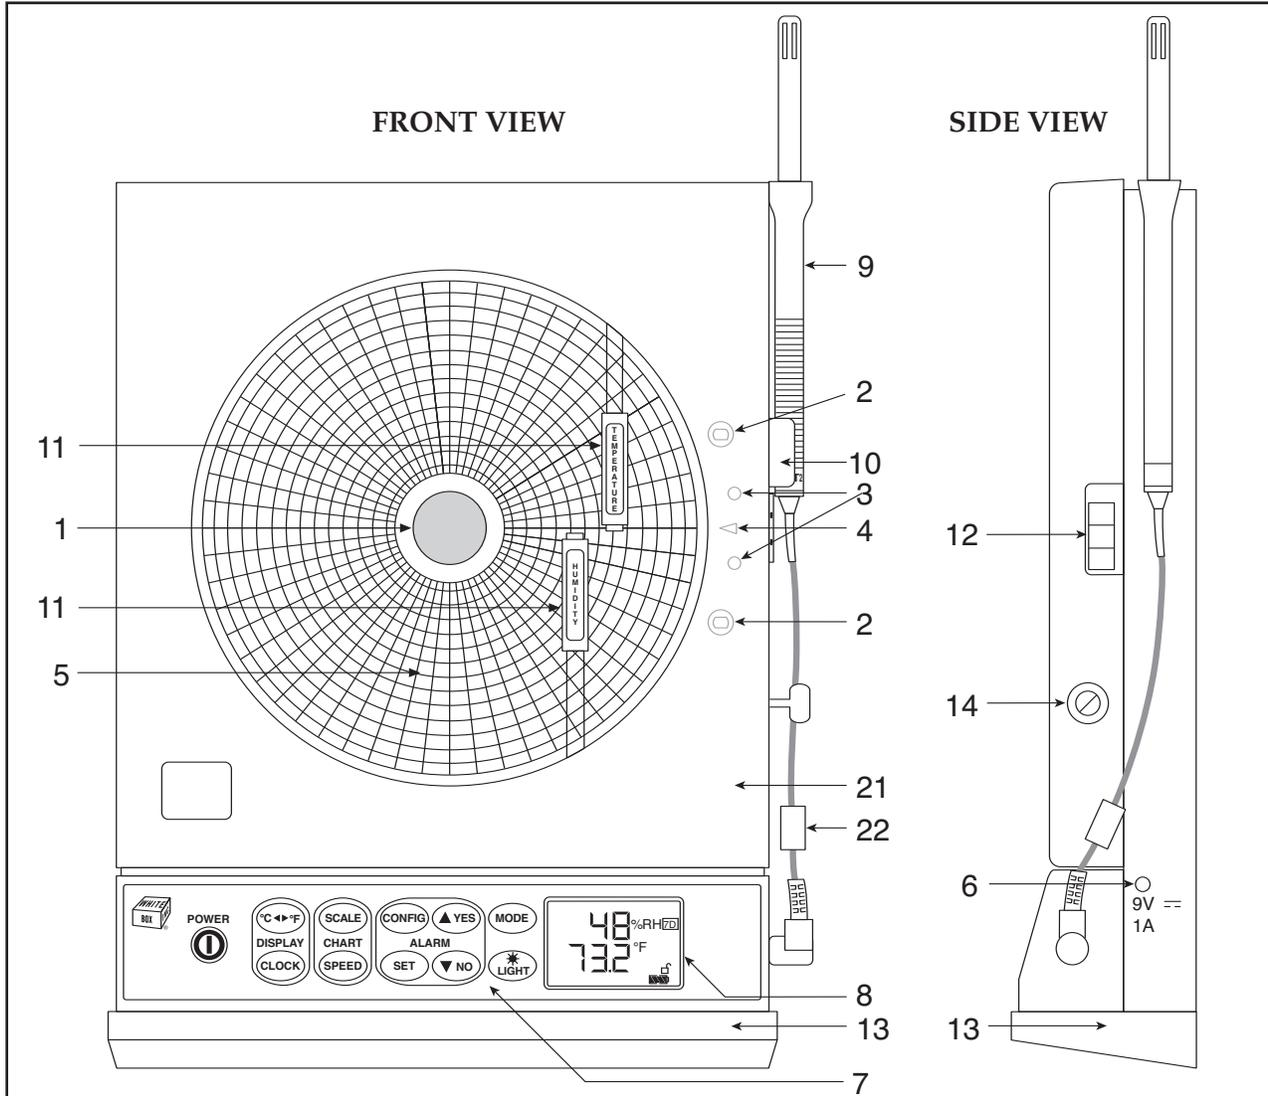

Figure 1-1. Front and Side Views of the Recorder - Temperature/Humidity Model
To mount the recorder on the wall, first locate the wall mounting holes using the template provided in the wall mounting kit. Leave the decorative foot cover (Figure 1-1, item #18) in place*. After drilling the holes, insert the wall anchors and put in the screws, leaving $\frac{1}{8}$ inch (3 mm) between the screw heads and the wall. Hang the recorder by positioning the two (2) "keyholes" in the rear cover over the screw heads.